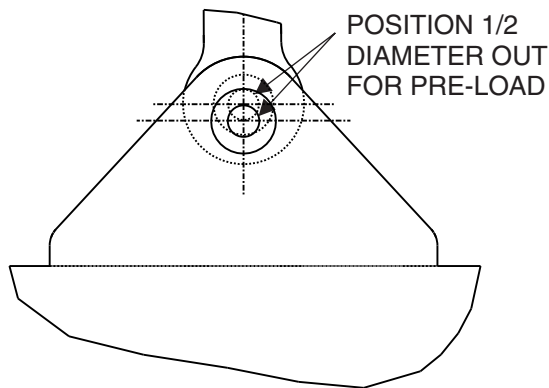

Figure 25
4. Refer to Figure 25, and , with the door arm coupling screws facing up, POSITION the larger end of the door arm onto the operator output shaft. Align the hole in the end of the door arm approximately 1/2 hole away from the hole in the mounting bracket.